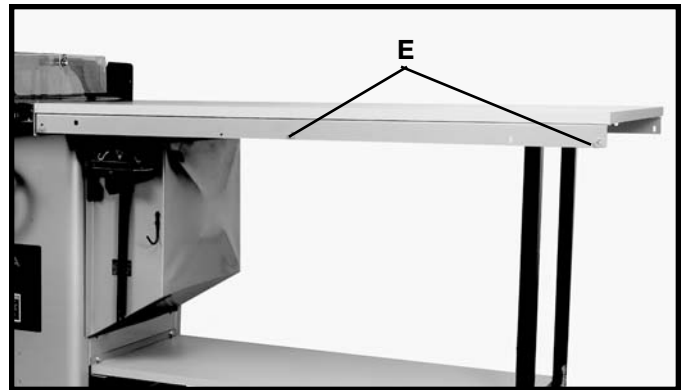

Fig. 50
4. Insert two 1/4-20x3/4" hex head bolt (E) Fig. 50 into the front support of the extension table and place flat washer and nut onto bolt from underneath the extension table. Screw bolt into nut two complete turns, leaving bolt head extended approximately 1/4" from the extension table.